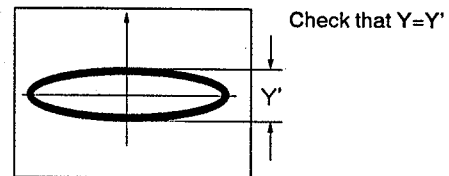

Fig. 2 Lissajous figure of the outer track of the disc (CD)
5. Close the TRKG servo and search frame #100, then open the TRKG servo again to observe the Lissajous figure. At this time, check that the Y - axis amplitude of the Lissajous figure is the same as that noted in step 4. (Fig. 2)